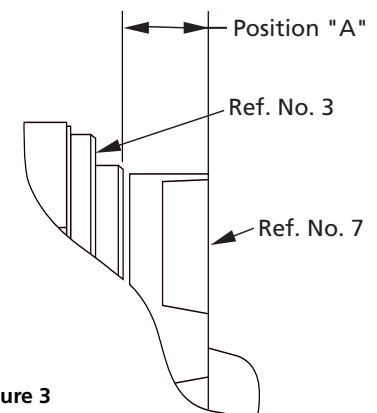

Figure 3
7. By replacing the original shims that came with the pump the impeller height should be properly set. The chart accompanying Figure 3 gives the correct adapter to motor height dimension for optimum pump performance. After installing check if shaft turns freely by spinning impeller. If rubbing or binding is found, remove impeller and add a shim (Ref. No. 6) to shaft, then recheck. Repeat procedure until all rubbing is eliminated.